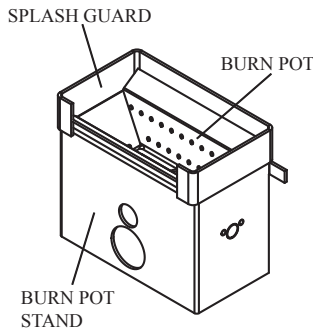

Figure 27. Burn pot stand assembly.
4. Remove the burn pot, burn pot stand and splash guard (Figure 27) and clean them thoroughly. Lift the burn pot and splash guard to remove. Lift up on the burn pot stand and pull towards you to remove. Make sure there are no ashes remaining in the burn pot stand and that all the holes in the burn pot are clear. Failure to do so can be a fire hazard. Place all ashes into a metal container with a tight fitting lid.